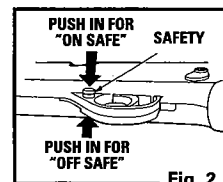

Fig. 2
- Push the safety from the left side all the way in (Fig. 2). The safety is not on unless it is pushed all the way in and the red ring around the safety is not showing. The air rifle will not fire when "On Safe".